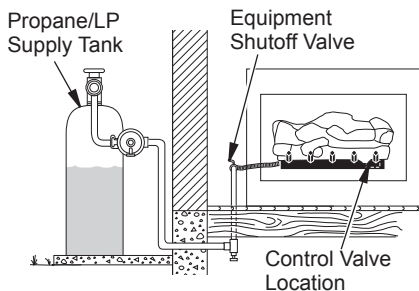

Figure 15 - Checking Gas Joints (Propane/LP Only)
3. Check all joints from gas meter to equipment shutoff valve for natural gas or propane/LP supply to equipment shutoff valve for propane/LP (see Figure 15 or Figure 16, page 15). Apply noncorrosive leak detection fluid to all joints. Bubbles forming show a leak.
4. Check all joints from gas meter to equipment shutoff valve for natural gas or propane/LP supply to equipment shutoff valve for propane/LP (see Figure 15, page 14 or Figure 16). Apply noncorrosive leak detection fluid to all joints. Bubbles forming show a leak.